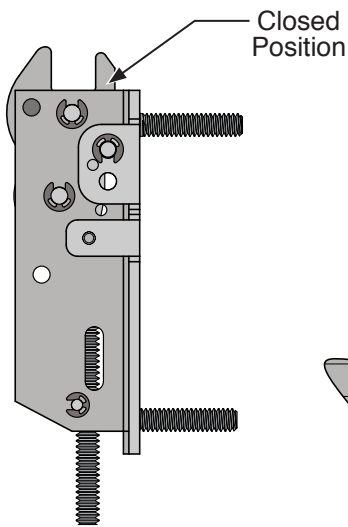
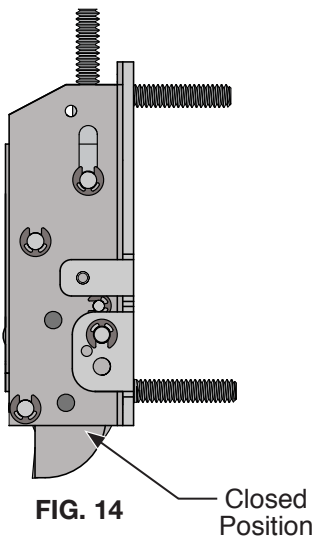

FIG. 13
FIG. 14
1. Bring the upper latch to the closed position. (Fig. 13) The bottom latch should be in the closed position. (Fig. 14)